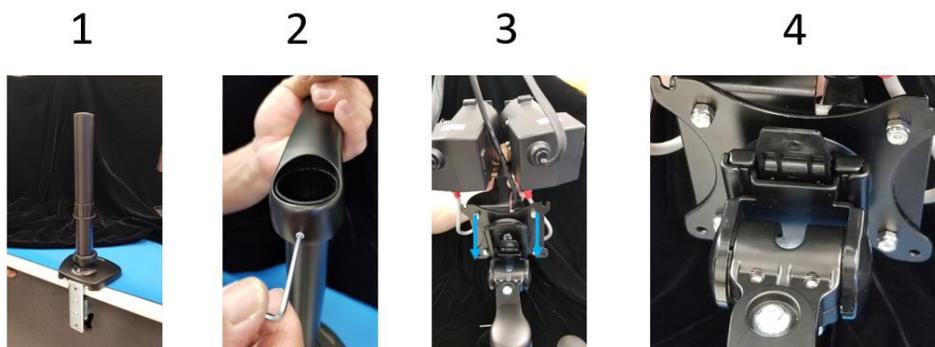

Figure 3
- Assemble Camera Arm by mounting base post on a stable table and lock into place by twisting the knob on the base of the arm. Loosen set screw with the included hex-head wrench and slide the arm down on post to desired height. Retighten set screw. Place the camera assembly on end of the arm in slot and lower till it locks in place. See Figure 3.